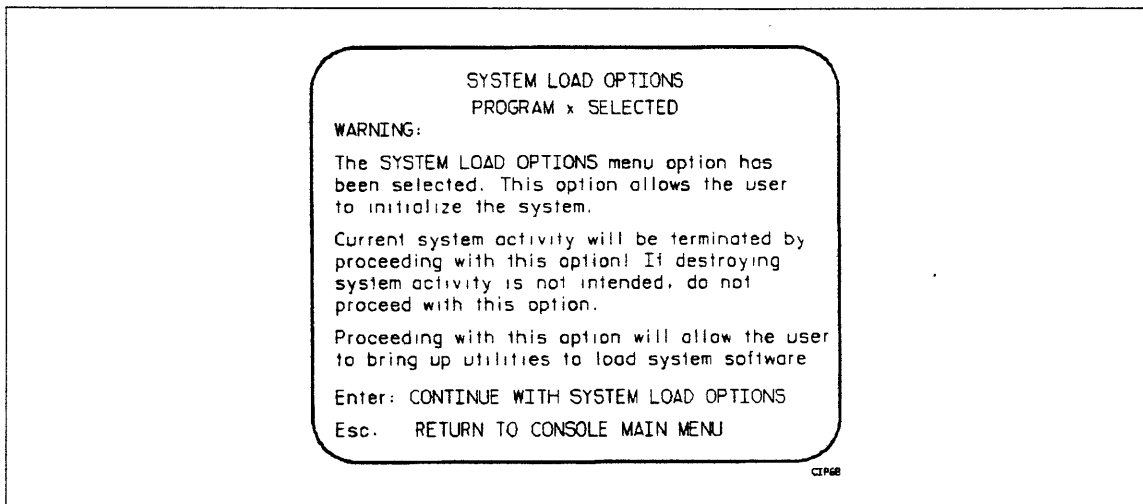

Figure 3-4. System Load Options Warning (Dual IOU Systems)
- ___ a. To execute a short deadstart, type **S** or press **Enter** from the CONSOLE MAIN MENU; the SYSTEM LOAD OPTIONS warning shown in figure 3-4 appears. From this display, press the **Enter** key to proceed with the deadstart. This option deadstarts both IOU0 and IOU1. Upon completion of the deadstart, the INITIAL OPTIONS display appears.
- ___ 2. From the CONSOLE MAIN MENU display, type S or press **Enter**. Because current system activity will be terminated by proceeding with the S option, the warning display shown in figure 3-4 appears. From this display, press **Enter** to proceed to the INITIAL OPTIONS display.